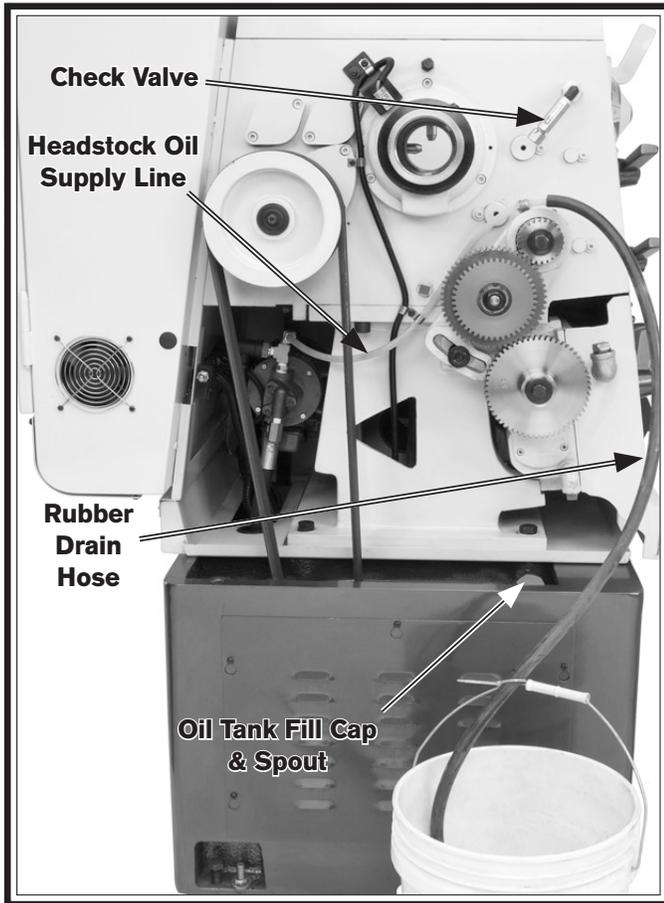

Figure 101. Draining headstock oil.
3. Remove the headstock oil supply line from the check valve (see **Figure 101**).